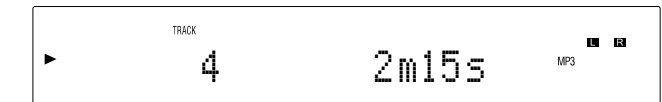

Figure 41
- Press the PLAY/PAUSE ►/|| Push-button to start Playback. Refer to figure 41.